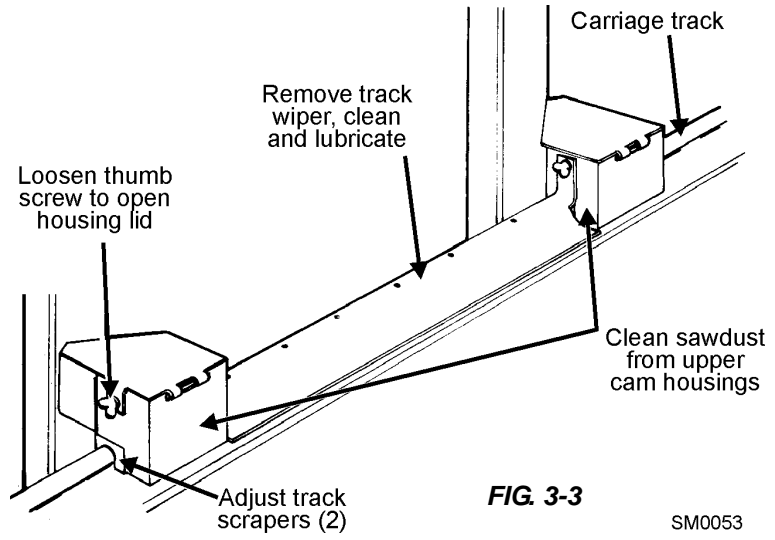

FIG. 3-3
- 8 1. Clean the upper and lower track rails to remove any sawdust and sap buildup every eight hours of operation. Lubricate the lower track rail by wiping it with Dexron III ATF. See Figure 3-3.